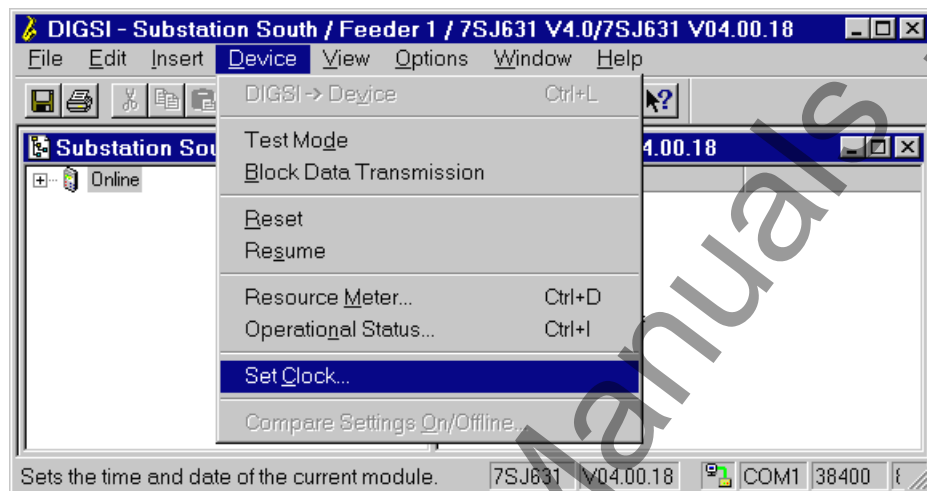

Figure 3-11 DIGSI® 4 — Selection of the option **Set Clock**
- ❑ Click on **Device** in the menu bar. See Figure 3-11.